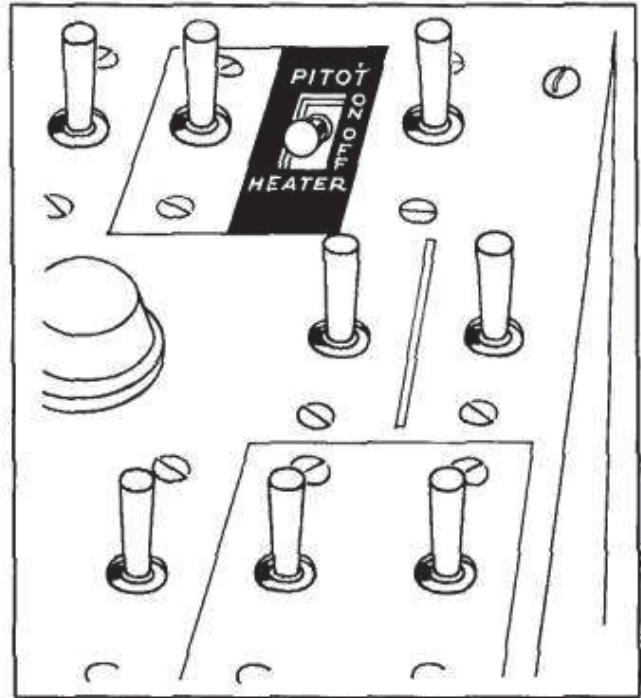

Figure 43—Pitot Heater Switch Location
(15) Check to see that pitot heater is turned "OFF." (See figure 43.)
(16) Set brakes for parking by depressing the brake pedals equally and fully. Pedals are locked in place by pulling parking brake lever "ON." Hydraulic